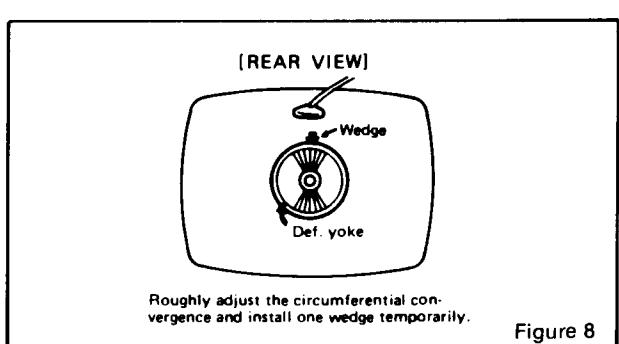

Figure 8
- 2.3 Adjust convergence around the edges of the picture tube by tilting the yoke up-down and left-right, and temporarily install one wedge at the top of the yoke or in a more optimum position. (Figures 8, 9, 10)
When the Pole opens to the left and right 30° symmetrically, the magnetic field is maximized. Red and blue beams both move to the left and right (See Fig. 8-c and 8-d).